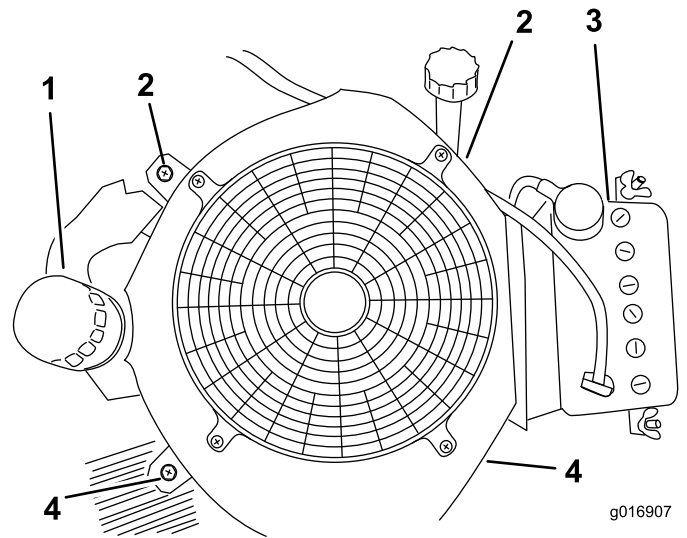

Figure 78
6. Remove the two screws on the left and right hand sides in the cooling fan housing as shown in Figure 78.